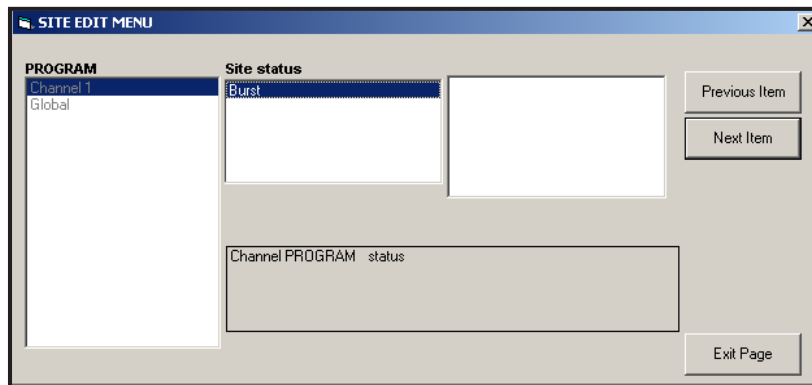

Figure 44: Status Option in the Channel Menu
2. Highlight and double-click on the Status option in the center pane. The window now appears similar to *Figure 44* below.